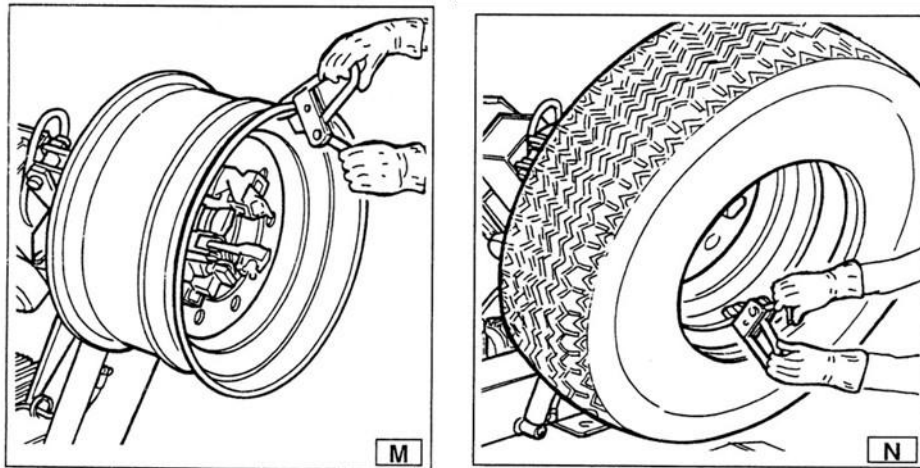

Fig 14
- 3) Attach the bead pressing tool to the outside edge of the rim at the highest point (Fig 14/M).
- 8) Remove the bead pressing tool and replace it at 6 o'clock outside the second bead (Fig 14/N).
- 10) Attach the bead pressing tool at the bottom (6 o'clock) outside the second bead (Fig 14/N).